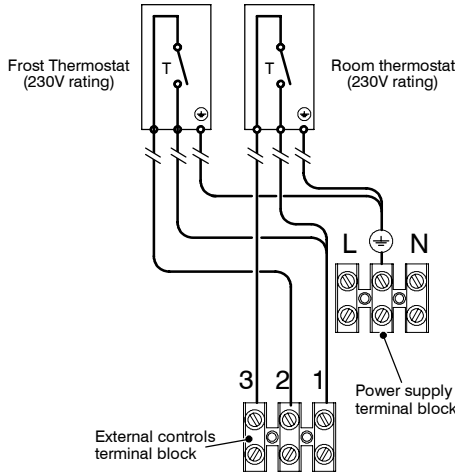
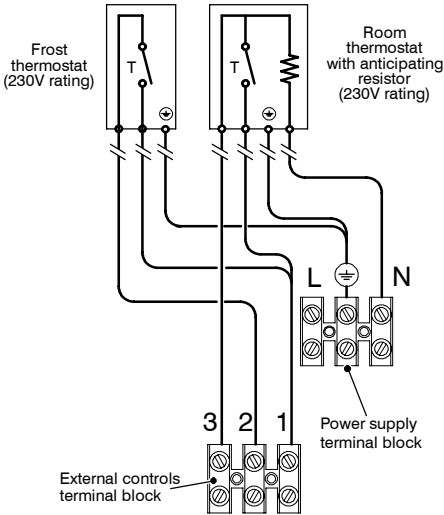

Fig. 6.21
Fig. 6.22
- 10 Connect the frost thermostat between terminals 1 and 2 as shown in Fig. 6.21 or Fig. 6.22